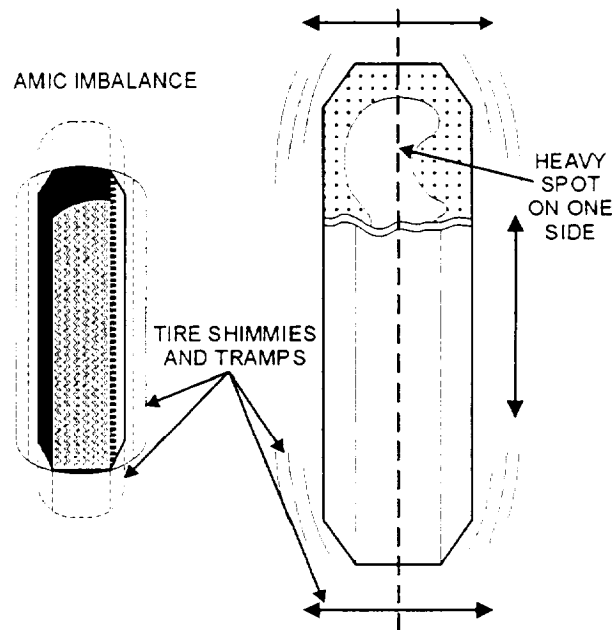

Figure 8-42.—Dynamic imbalance.
- **DYNAMIC IMBALANCE** (fig. 8-42) lies on either or both sides of the center line of the tire, which causes the tire to vibrate up and down (wheel hop) and from side to side (wheel shimmy). To be in dynamic balance, the top-to-bottom weight and the side-to-side weight must all be equal.